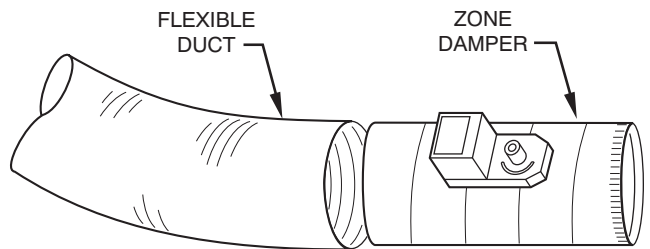

Fig. 5 - Round Flexible Ductwork
1. Slip one end of the flexible ductwork over the zone damper end (See Fig. 5).